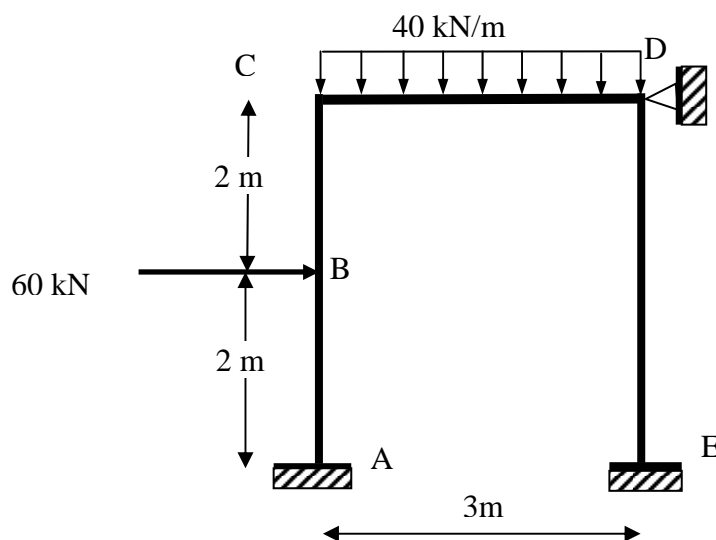

Figure 7
4. (a) Figure 7 shows a frame carrying a uniformly distributed load of 40 kN/m on span CD and a horizontal load of 60 kN at the mid-height column AC. Supports A and E are fixed. Assuming that EI is constant. Determine the internal moments at the joints of the frame by using the Slope Deflection Method. Hence sketch the deflected shape and bending moment diagram of the frame.